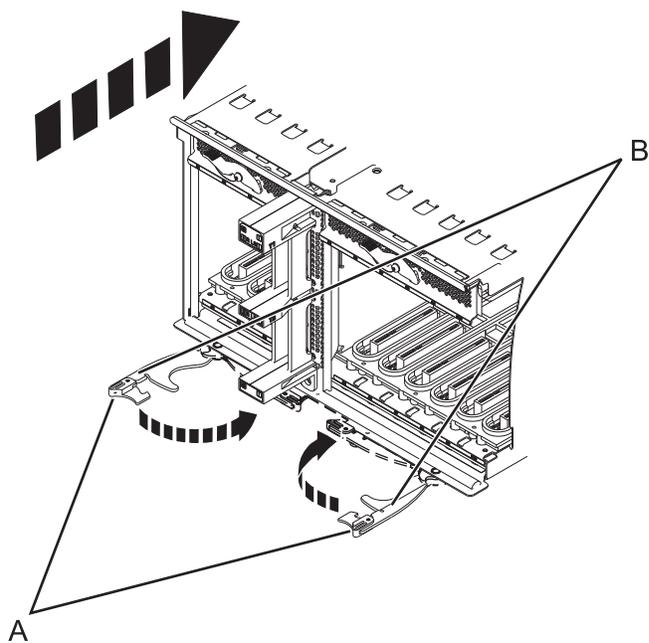

Figure 74. Install the I/O system board on a rack mounted model
- Insert the I/O system board firmly into the server, as shown in Figure 74 on page 126.
- Secure the I/O system board with the locking tabs (A), as shown in Figure 74 on page 126.